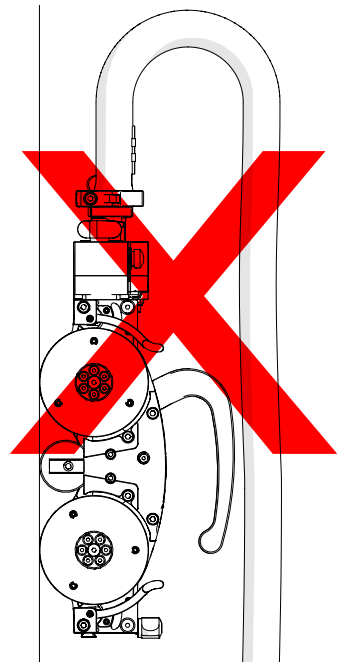

Fig. 100 - Incorrect use
For operating at heights greater than 2 m (6 ft), ensure the umbilical strain relief is aligned according to the below instructions and never points upwards as shown in (Fig. 100). The crawler could fall.
3. Ensure the umbilical never points upwards during operation (*Fig. 100*).